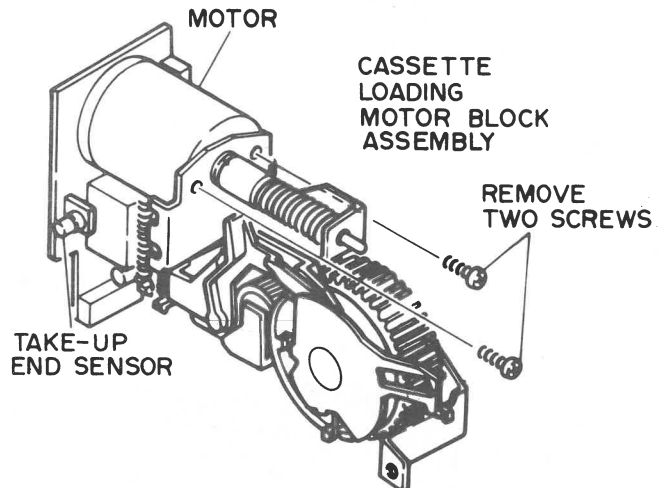

Fig. 19 Cassette Loading Motor Removal
**Cassette Loading Motor Removal** (Fig. 19)
2. Remove the two (2) screws from the motor block chassis and pull the switch lever down to remove the motor.